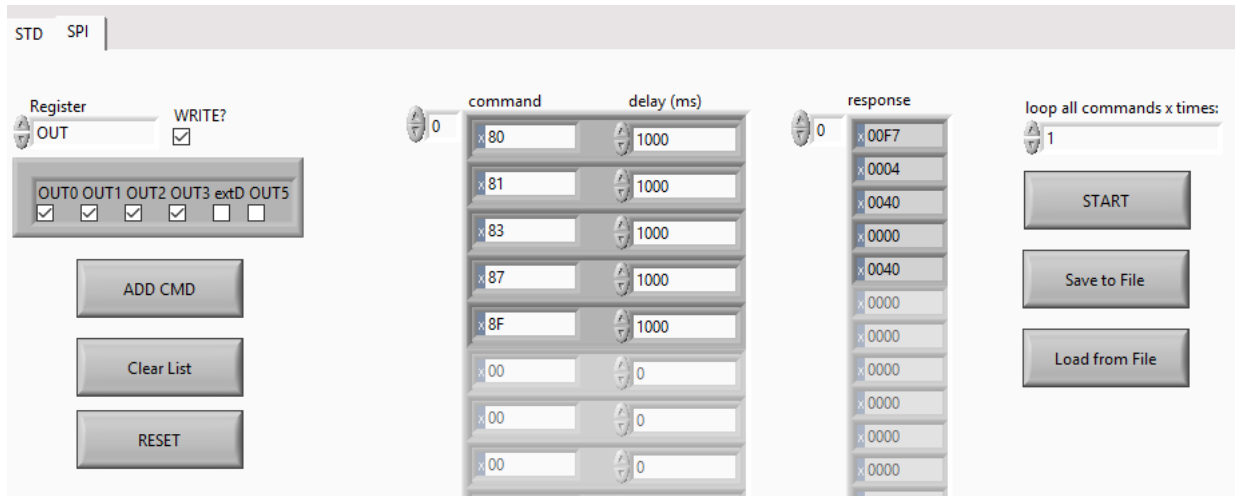

Figure 30 - response of SPOCTM+2 to command sequence
- The response of the SPOCTM+2 is shown in the response list (See Figure 30)